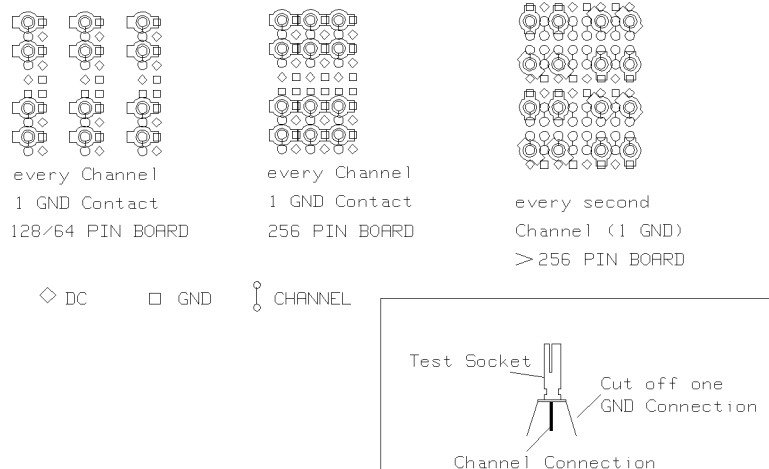

Figure 2-9. Fitting a Test Socket
2. Refer to Figure 2-9, remove one ground connector from the test socket.